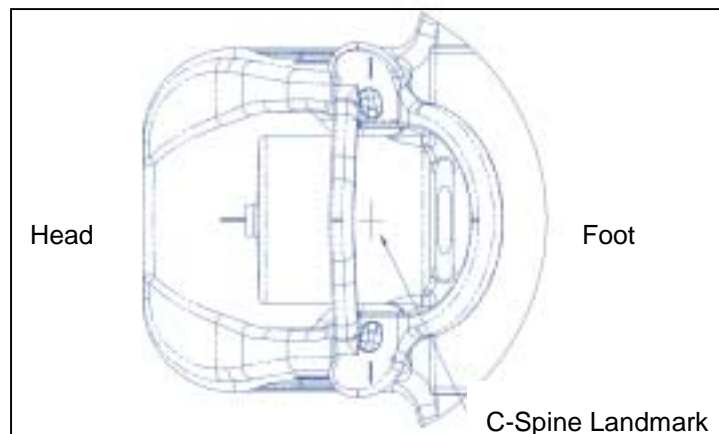

*Figure 8: Phantom set on the coil in the system.*
3. Place the coil on the patient table and load it with the phantom set (see *Figure 8*).